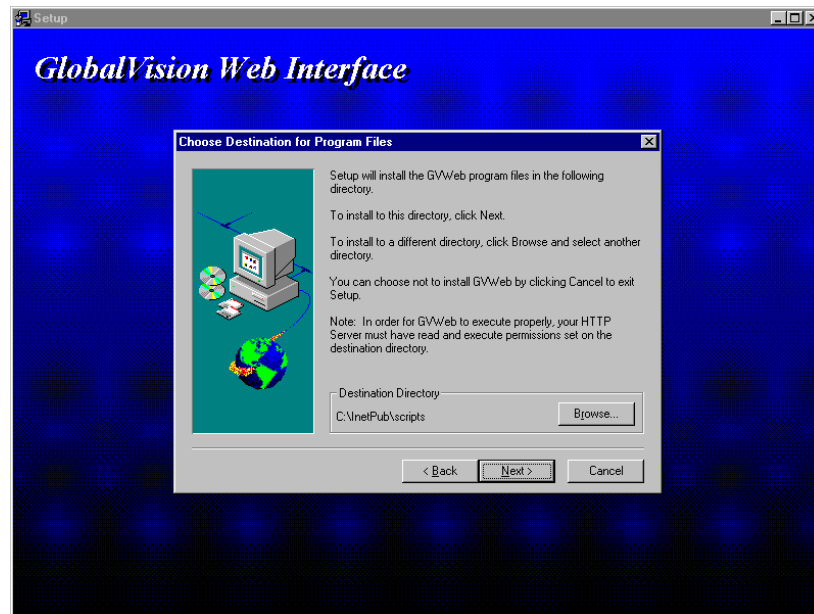

Figure 27 – Select Destination Directory dialog box
5. The next screen allows you to select the directory wherein you would like to install GV Web. The default is set for you as **C:\inetPub\scripts**. Make your choice and click **NEXT>** to continue installation. See Figure 27.